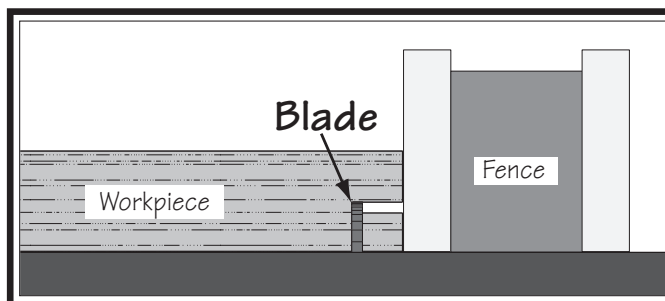

Figure 79. Example of second cut to create a rabbet.
7. Lay workpiece flat on table, as shown in **Figure 79**, adjust saw blade height to intersect with first cut, then perform second cut to complete rabbet.